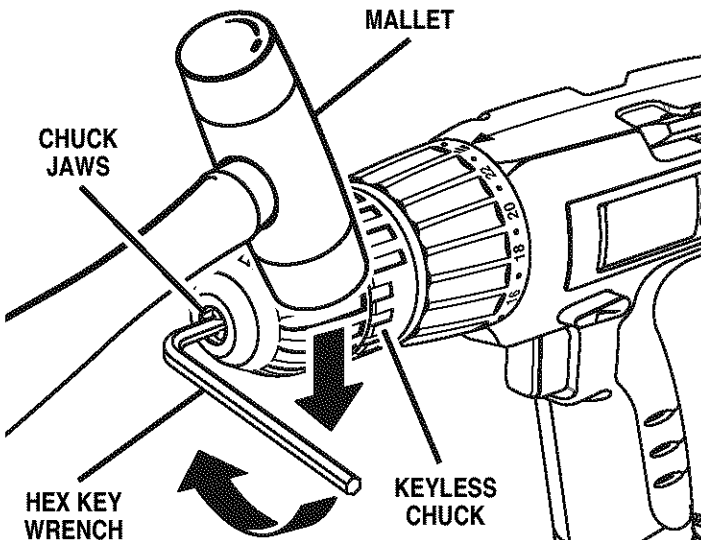

Fig. 12
See Figures 12, 13, and 14.
- Tap the hex key wrench sharply with a mallet in a clockwise direction. See Figure 12. This will loosen the screw in the chuck for easy removal.